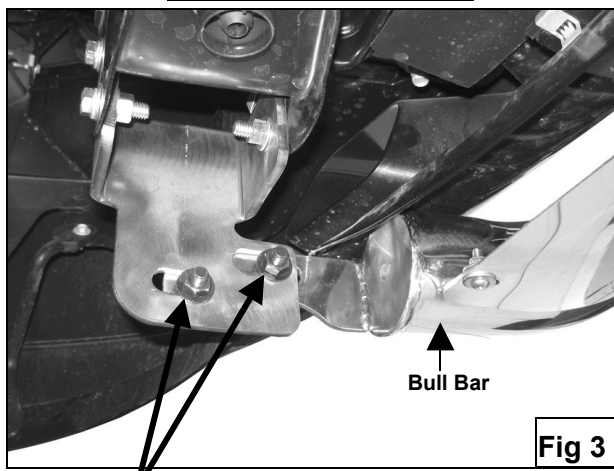

Fig 3
- With help position Bull Bar on the outer side of Mounting Brackets. Attach Bull Bar to Mounting Brackets using the included (4) 12-1.75mm x 35mm Hex Head Bolts, (4) 12mm Lock Washers, (4) 12mm Hex Nuts, and (8) 12mm Flat Washers (**Figure 3**).